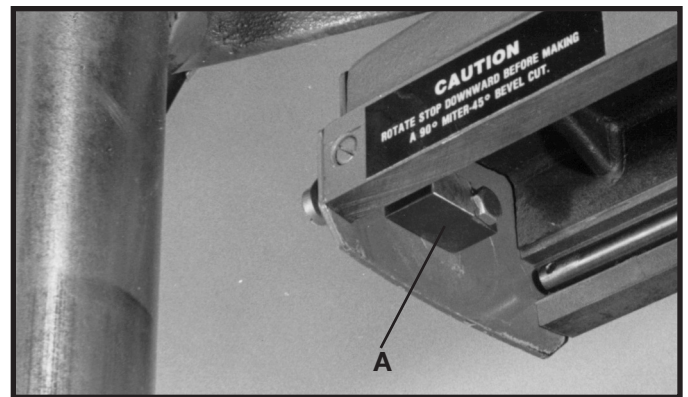
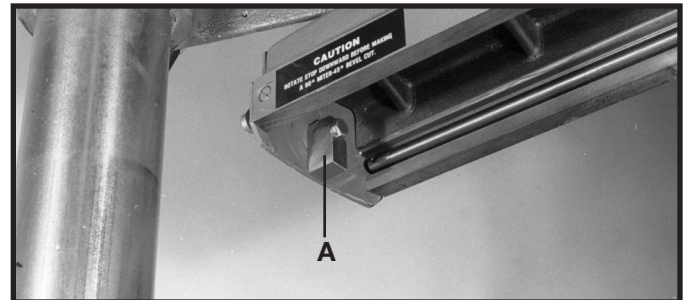

Fig. 58
Fig. 59
When making cuts with the track arm in the straight cut-off position and the motor tilted for a 45° bevel cut, it is necessary to rotate stop (A) Fig. 58, to the downward position as shown in Fig. 59. This will prevent the saw blade from coming into contact with the column.